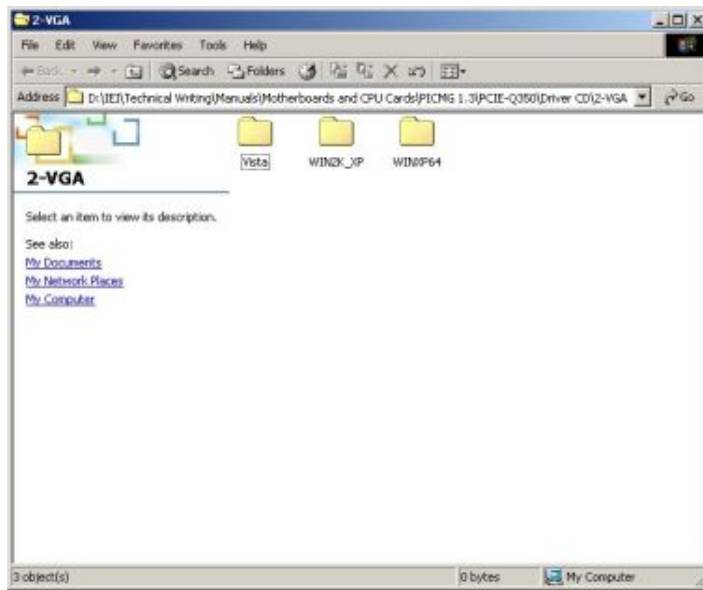

Figure 6-10: Select the Operating System
Step 2: A new window opens. See **Figure 6-10**.
Step 3: Select the operating system from those shown in **Figure 6-10**.